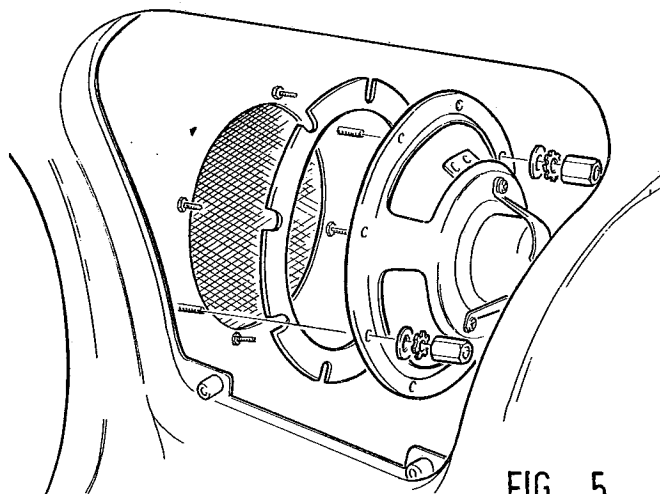

FIG. 5
10. Secure loudspeaker to two fixing studs provided inside of console as shown in Fig. 5